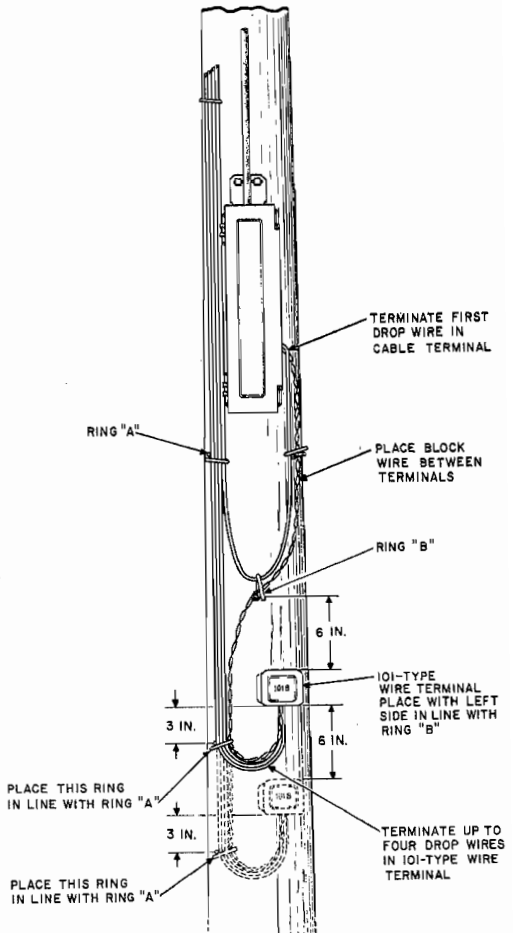

Fig. 13—Wiring 101-Type Terminal at Pole Mounted Terminal
2.12 The 101-type wire terminal should be mounted on poles and walls as shown on Fig. 13, 14, 15, 16, and 17.